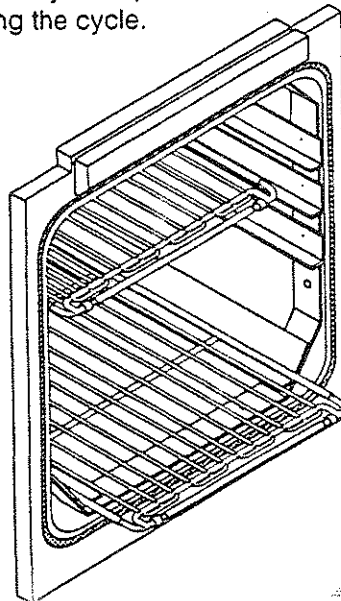

Figure 5-1. Slide Shelf Half Way out of Chamber
2. Slide shelf half way out of the sterilizer chamber (see Figure 5-1).